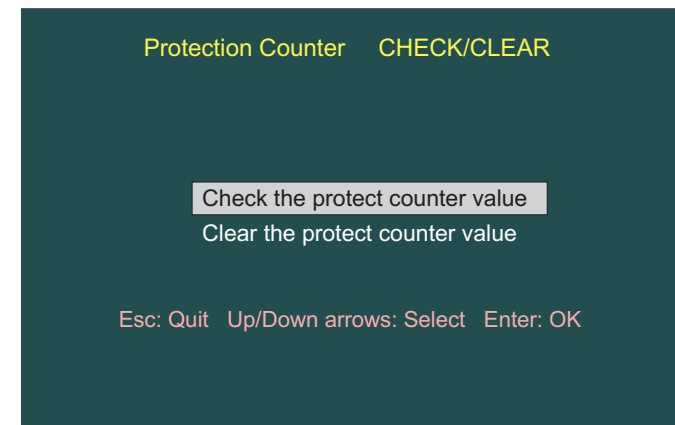

Figure 5-15. Protection Counter Menu
3. Select **Indication of the counter value for the waste ink pad**. The screen shown in Figure 5-15 appears.